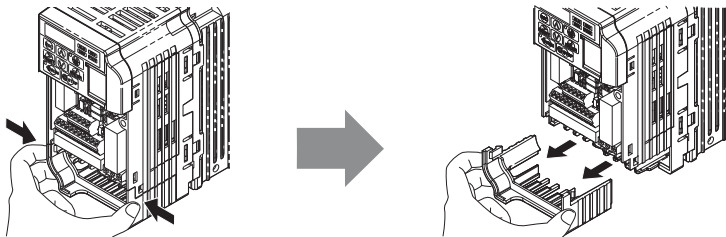
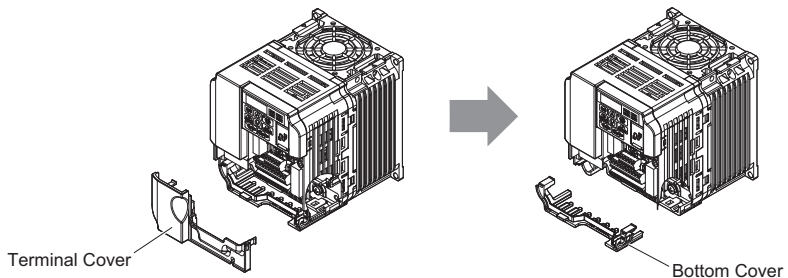

Figure 5 Remove the Bottom Cover on an IP20/Open-Chassis Drive (Models CIMR-V□BA0001B to BA0003B and 2A0001B to 2A0006B)
Figure 6 Remove the Terminal Cover and Bottom Cover on an IP20/Open-Chassis Drive (Models CIMR-V□BA0006B to BA0018B; 2A0008B to 2A0069B; 4A0001B to 4A0038B)
3. For IP20/Open-Chassis models CIMR-V□□A□□□□B, remove the bottom cover of the drive by applying pressure to the tabs on each side of the bottom cover. Pull the bottom cover away from the drive while pushing in on the tabs to release the cover from the drive. Refer to Figure 5 for details. Refer to Figure 6 for drive models CIMR-V□BA0006B to BA0018B, 2A0008B to 2A0069B, and 4A0001B to 4A0038B, which require removing the terminal cover prior to removing the bottom cover.